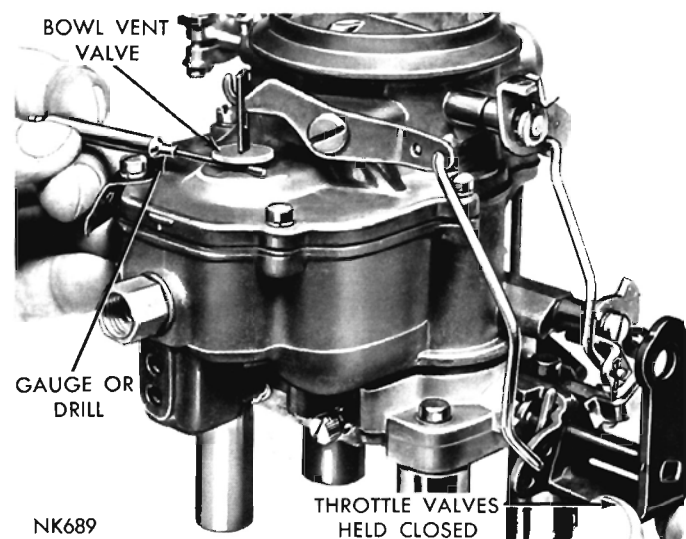

Fig. 12—Measuring Bowl Vent Opening
- (1) Back off the idle speed adjusting screw. Open the choke valve so that the fast idle cam allows the throttle valves to be completely seated in the bores.
- (2) Be sure the pump operating rod is in the medium stroke hole in the throttle lever, and that the bowl vent clip on the pump stem is in the center notch.
(3) Close the throttle valves tightly. It should be just possible to insert a $\frac{1}{16}$ inch drill between the bowl vent and its seat, as shown in (Fig. 12).